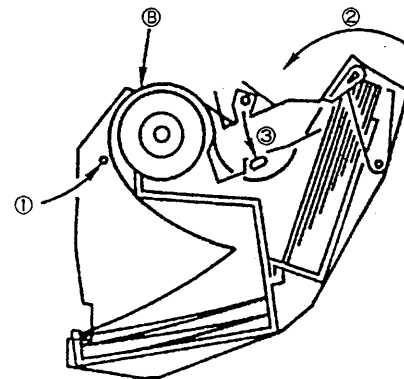

Figure 6.1.6
- 7) Return the chart roller and chart pressure plate to their original positions, following ① through ③ in Figure 6.1.6. Engage the projections ③, indicated by the arrow (see Figure 6.1.6) with the holes on the left and right sideplates on the chart cassette.